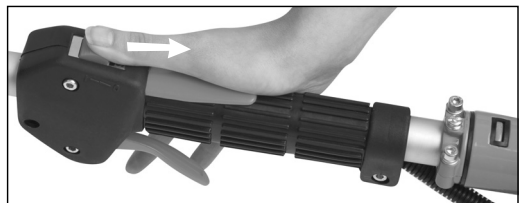

Figure 11.
**To stop the engine, simply move the ignition switch back to the STOP position (*Figure 11*).**